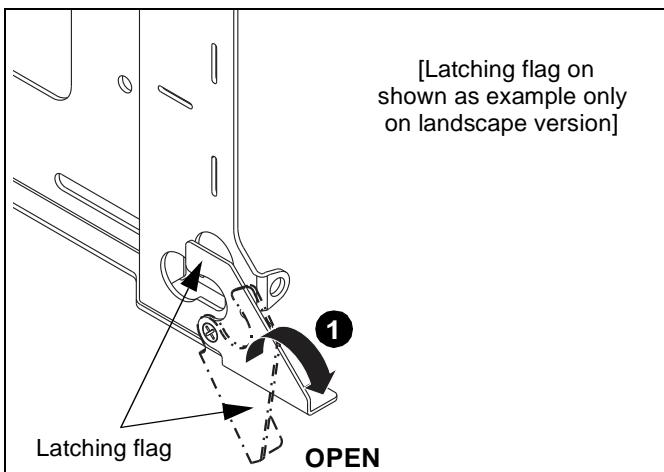

Figure 8
1. Move latching flag on mount to the **OPEN** position. (See Figure 8)